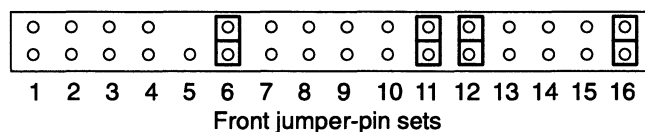

Figure 6 Required jumpers for Model 61012-W or 61014-W drive (Version A)
3. Make sure jumpers are installed *only* across front jumper-pin sets 6, 11, 12, and 16, as shown in Figure 6.